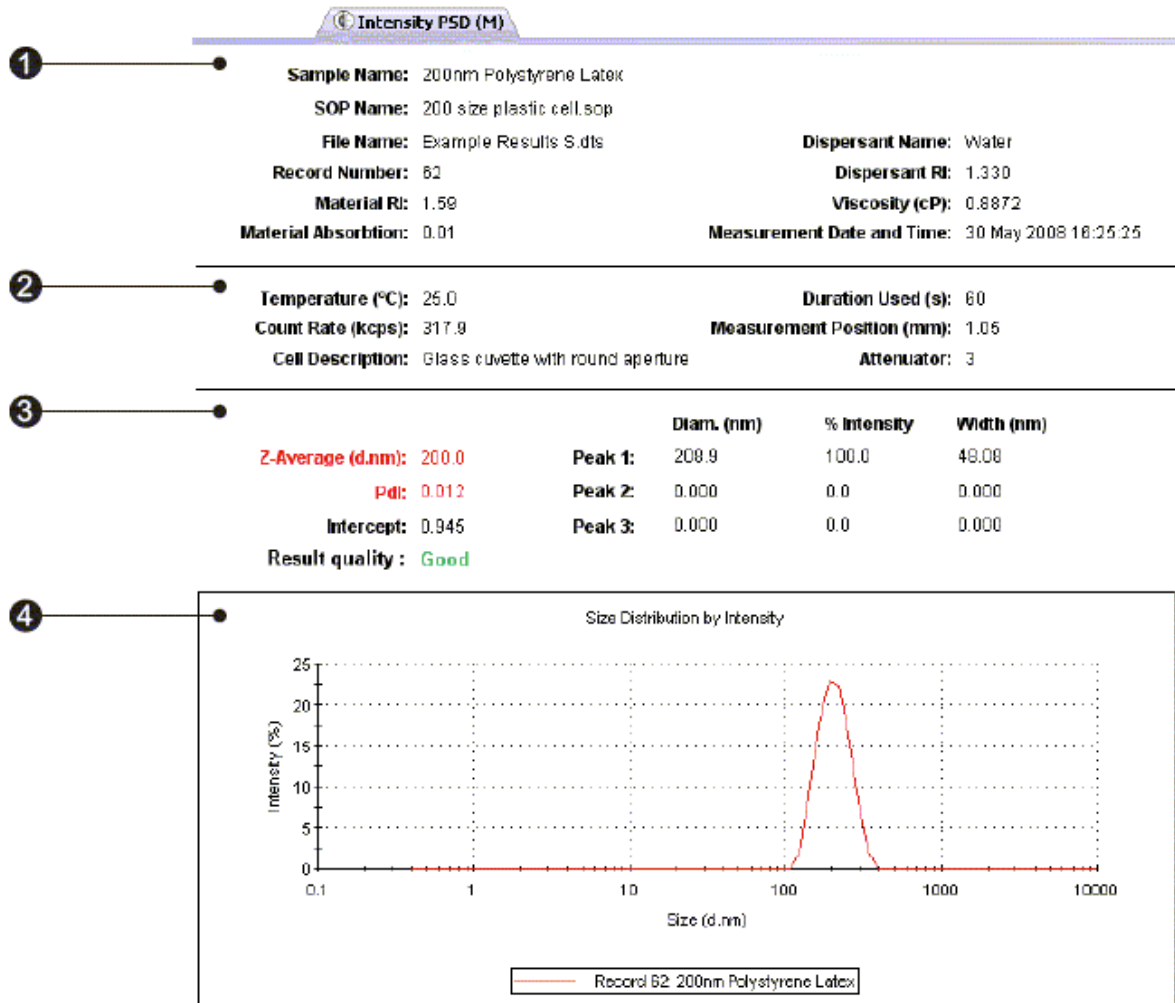

Figure 6. Standard report for size measurement.
Size measurement - standard report is Intensity PSD (M) (Particle Size Distribution) is shown in Figure 6.